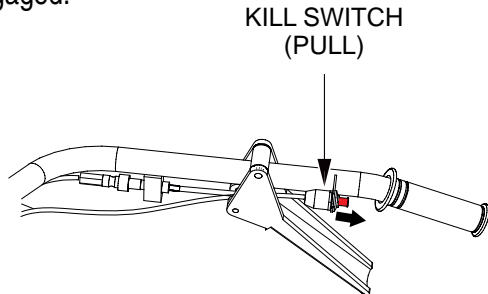

Figure 12. Kill Switch OFF
1. Before attempting to start the power buggy, make sure that the **safety kill switch** (Figure 12) is not pushed in. The power buggy will not start with the kill switch engaged.